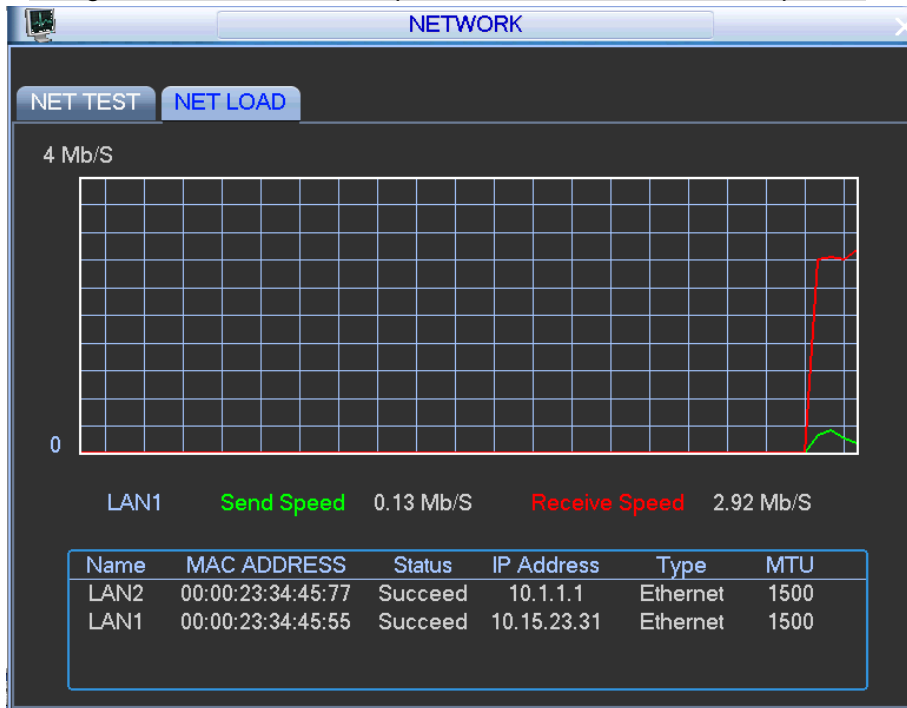

Figure 4-68
- Step 1 On the main menu, from Info->Network->Network load, Enter Network load interface. See Figure 4-68.